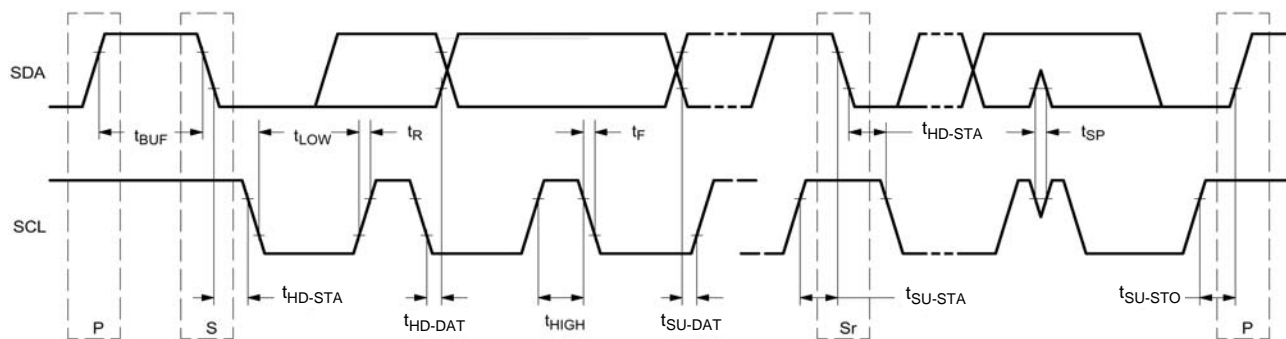

Figure 4. Definition of Time on the I²C Bus
- 19. see Figure 4 for more details